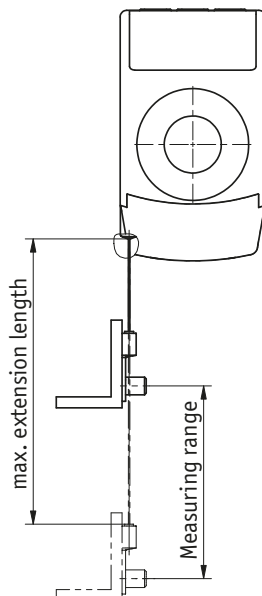

Fig. 1: Extension length check
- ▶ Do not pull out the wire beyond the specified maximum extension length (see Fig. 1).